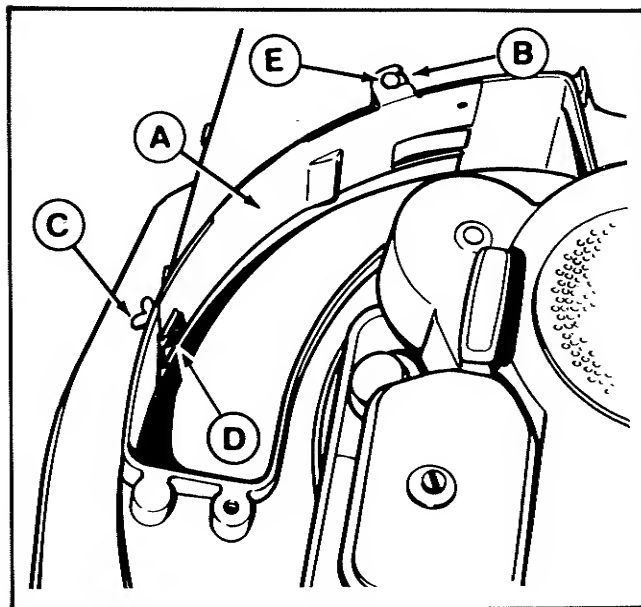

FIGURE 4 - BAFFLE PLATE
2. Install the baffle plate (A) as shown in figure 4. Slide the slot (B) under the spring bolt (E). Screw the wing screw (C) thru the mower deck and speed nut (D). (The speed nut is attached to the baffle plate.)
2. Remove the deck plate in order to install the baffle plate. See Figure 4. Install the baffle plate.